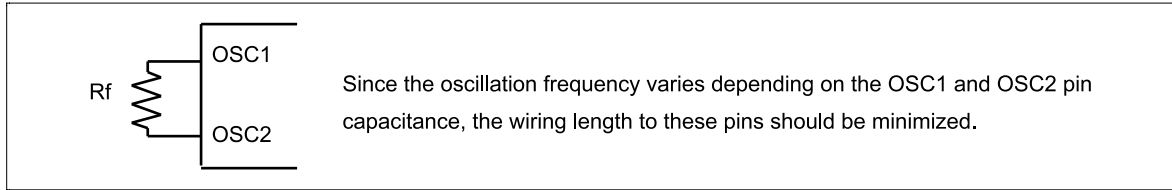

Figure 62 Internal Oscillation
10. Applies to the internal oscillator operations using external oscillation resistor R_f (figure 62 and table 30).